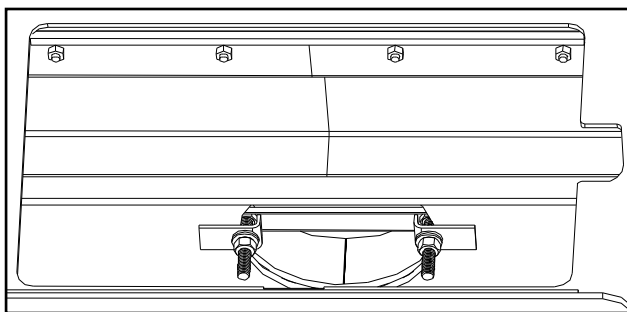

Figure 14: Removable flue collar in place.
- f) Place the Collar Puller, over the two bolts of the Flue Collar and pull it into place (see Figure 14). Ensure that the bolts are to the left and right of the hole. If they are not, the front secondary air tube will need to be removed in order to install or remove the C-Cast Ceramic Baffles.
- h) Re-install C-Cast Ceramic Baffles and the rear two (2) secondary air tube (see C-CAST CERAMIC BAFFLE INSTALLATION).